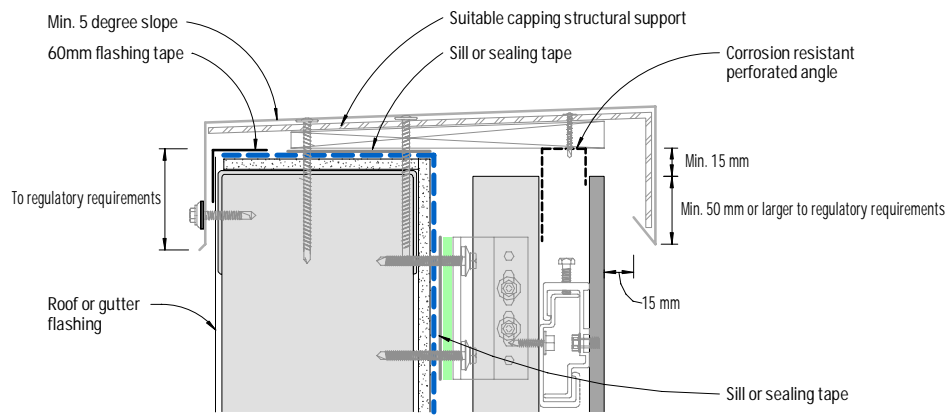

Figure 33: Capping - Detail 1
- 4) Capping shall be designed and engineered accordingly to provide adequate allowance for ventilation as shown in Figures 33 & 34.